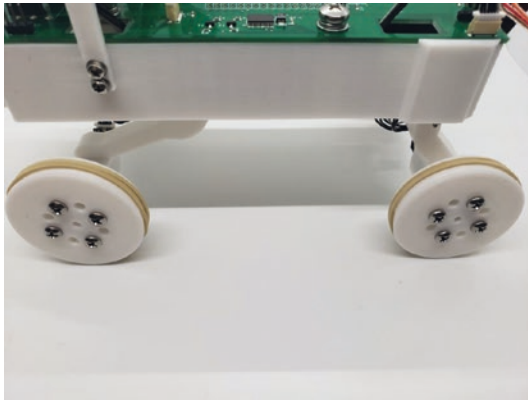

Figure 8-69. *Add 30mm rubber bands to give tires more traction*
24. Add the 30mm rubber bands or gaskets to the NatBot wheels. See Figure 8-69.